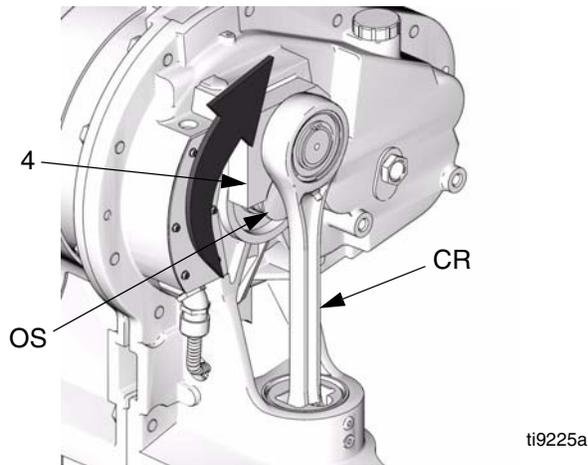

FIG. 11. Rotate Crank Arm
9. See FIG. 11. Rotate the crank arm (4) to allow it to be removed from the output shaft (OS).
10. Pull the crank arm/connecting rod/slider piston assembly (CR) up and out of the cylinder.
11. Remove the old bearings (8).